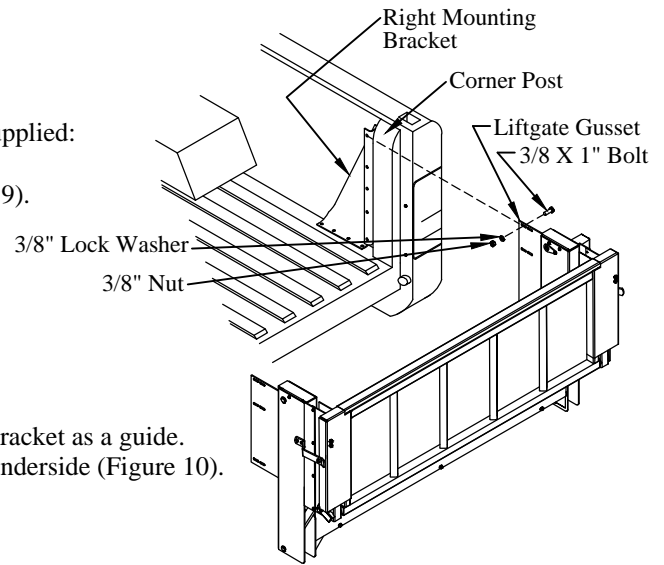

Figure 9: Mounting bracket and liftgate.
**1. Position** the mounting brackets into the truck bed in front of the corner posts (Figure 9).
- (3) 3/8"x1" hex head bolts on the bracket-side (Figure 9).
- (3) 3/8" lock washers, and (3) 3/8" nuts on the gusset-side (Figure 9).
**7. Drill** two (2) 3/8" holes into the truck bed floor using two holes in the bracket as a guide.